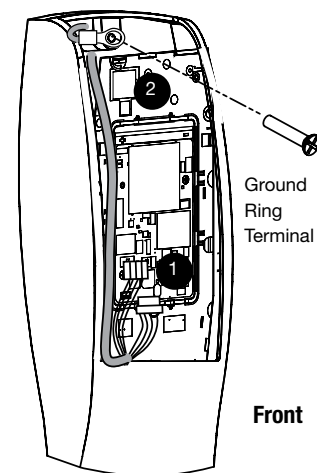

Fig. 12A
1. Route the raceway connectors over the top of the controller assembly and plug into the front of the circuit board (side that faces out when mounted) (J7, J4; Fig. 12A).